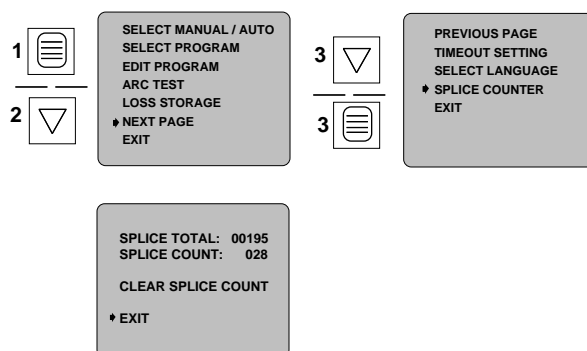

Figure 70
- a) Press the Program key. When in the menu mode press the Increment/Decrement keys until the cursor is adjacent to the splice counter line. Press the Program key again (Figure 70).